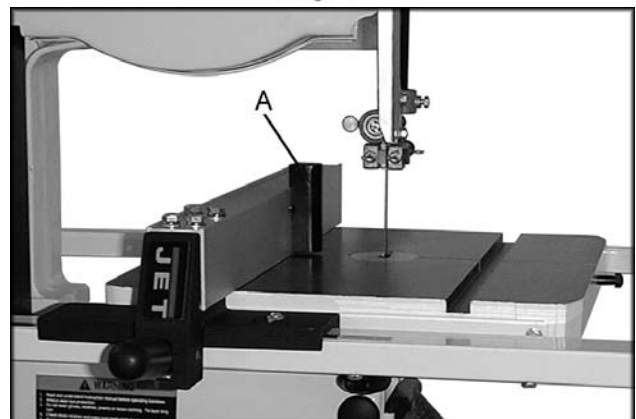

Fig. 8
13. For resawing operations attach the post (A, Fig. 8) to fence with the hand knob. There is a slotted hole in the fence that will accommodate the resaw kit. Position the post so that it is centered with the front edge of the blade.